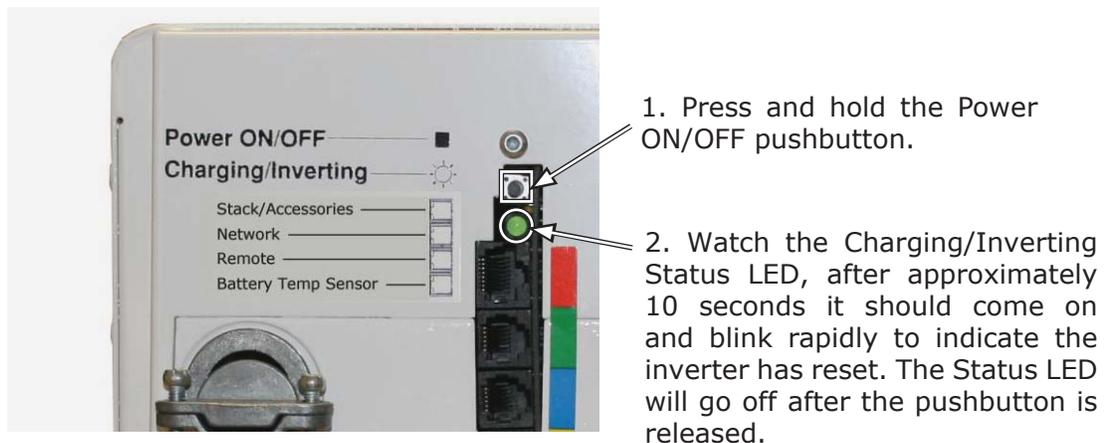

Figure 4-1, Performing an Inverter Reset
2. Press and hold the Power ON/OFF pushbutton (see Figure 4-1) for approximately ten (10) seconds until the Charging/Inverting Status LED comes on and blinks rapidly.